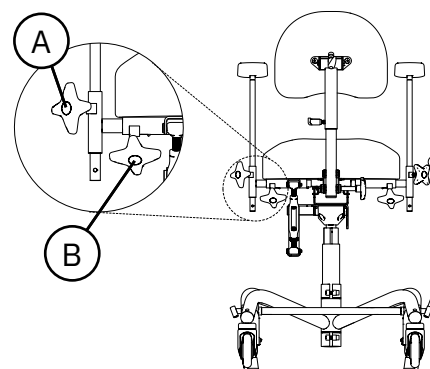

Figure 5.34. Armrest Mechanism 9500.
Armrest Mechanism 9500 has adjustable height (A) and width (B) (see Figure 5.34).